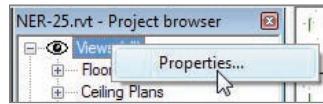

FIGURE 8.69 Right-clicking in the Project Browser
4. In the Project Browser, right-click on Views (All), as shown in Figure 8.69.